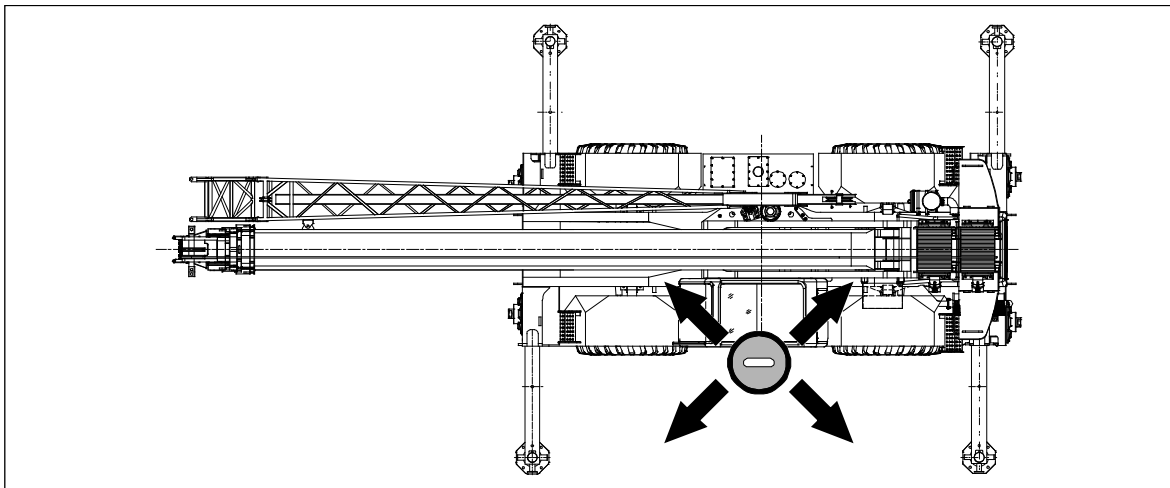

Figure 7-31 Make the Crane Level
- D. Extend the outriggers and make the crane level. Refer to Figure 7-31.